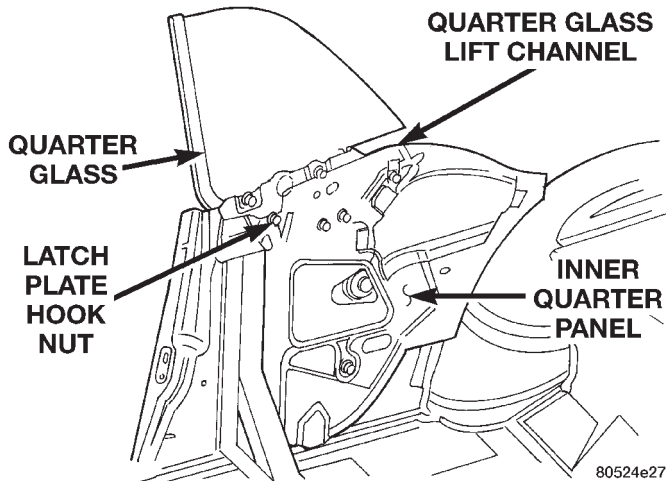

Fig. 64 Quarter Glass
- (1) Raise glass to full up position.
- (2) Remove quarter trim panel.
- (3) Partially lower convertible top.
- (4) Remove fasteners attaching glass to lift channel of quarter window module (Fig. 64).
- (5) Loosen latch plate hook nut.
- (6) Separate glass from vehicle.